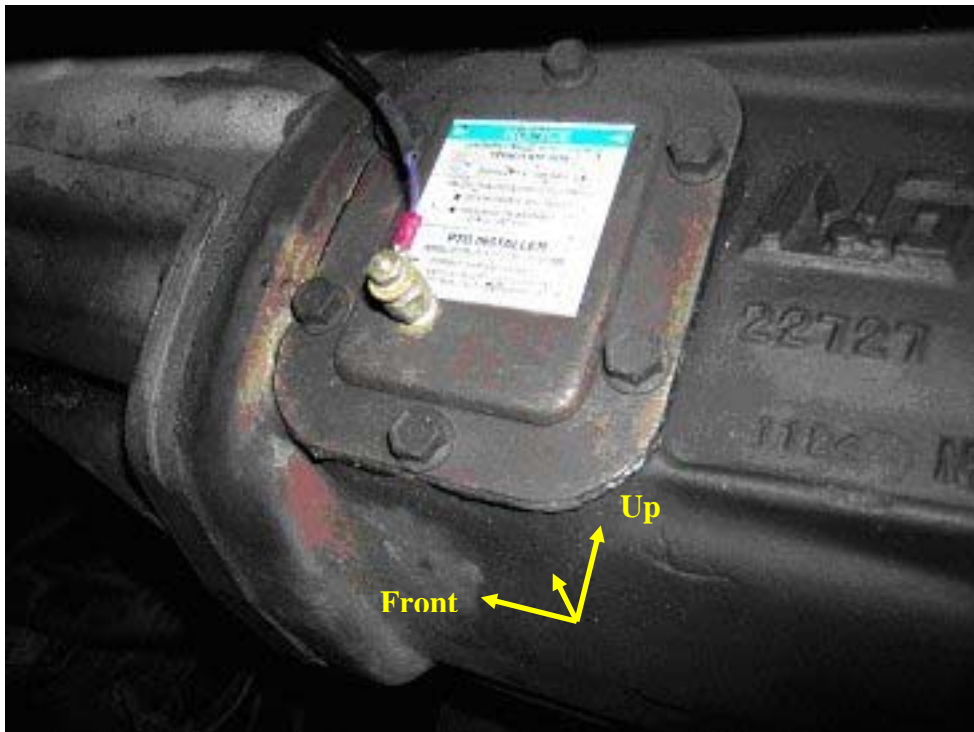

Figure 22 – Manual Transmission Temperature Sensor Location
3. Using a 5/16” or 21/64” drill bit, drill a hole in the PTO cover plate in the location shown in figure 22. Using a 1/8” NPT tap, thread the hole in the PTO cover plate. Apply Teflon tape or pipe thread sealant to the transmission temperature sensor and thread it into the PTO cover plate.